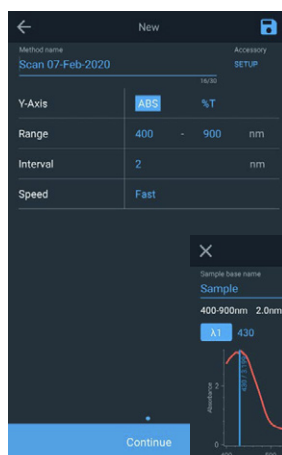

Figure 1.
3. Close the lid of the GENESYS UV-Vis Spectrophotometer. Select the Scan method and use the settings shown in Figure 1. Select Continue and then select Blank to record a baseline.